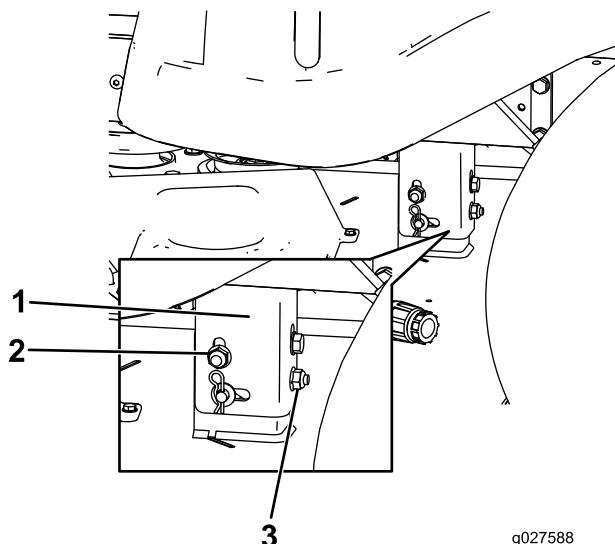

Figure 55
8. Raise or lower the left side of the mower deck by rotating the rear nut. (Figure 55).